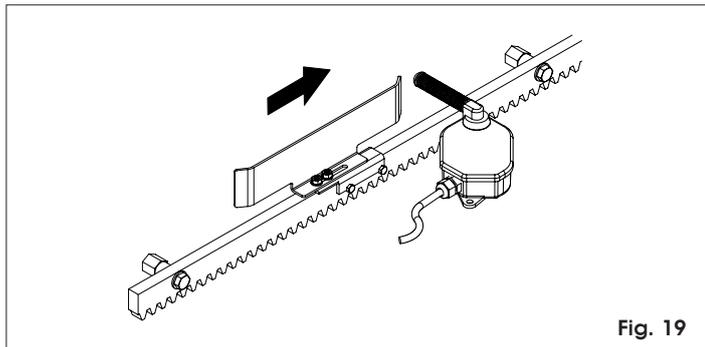

Fig. 19
- 5) Allow the plate to slide over the rack in opening direction (Fig.19). As soon as the opening limit stop LED on the control board goes off, take the plate forward by about 20-30 cm and secure it provisionally on the rack, using the supplied screws.